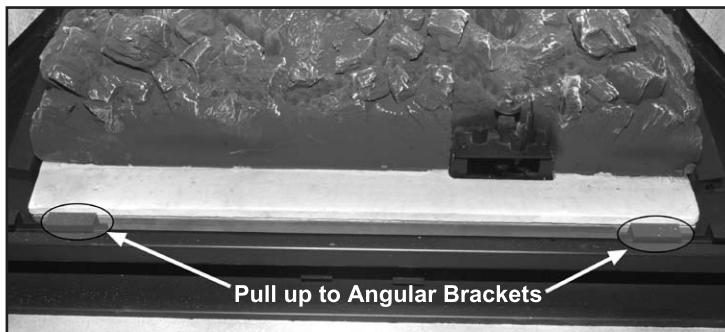

Figure 70: Log Burner in Place.
3. Pull the burner forward up to the angular brackets near the front of the firebox (see Figure 70).
4. Install the burner accent pieces as shown in Figure 71. There are a left, a right and a front ceramic trim. On each side of the burner and on the inside of each burner side accent pieces there is a slot, which should be aligned in order to position the log grate correctly (see Figure 70).